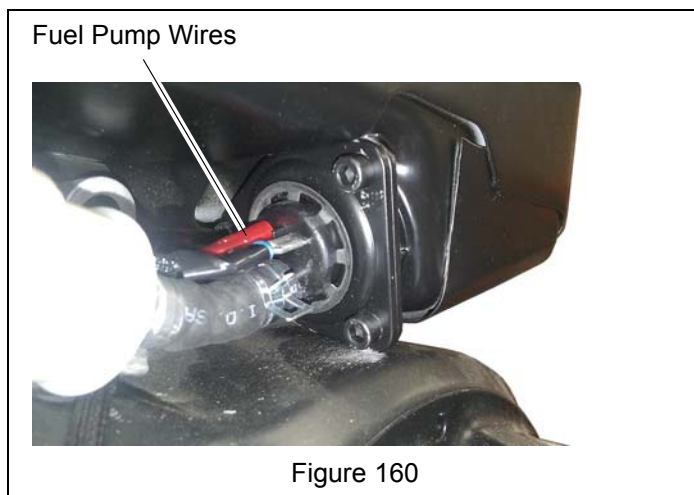

Figure 160
4. Check fuel pump wiring to ensure it is connected correctly. See Figure 160.